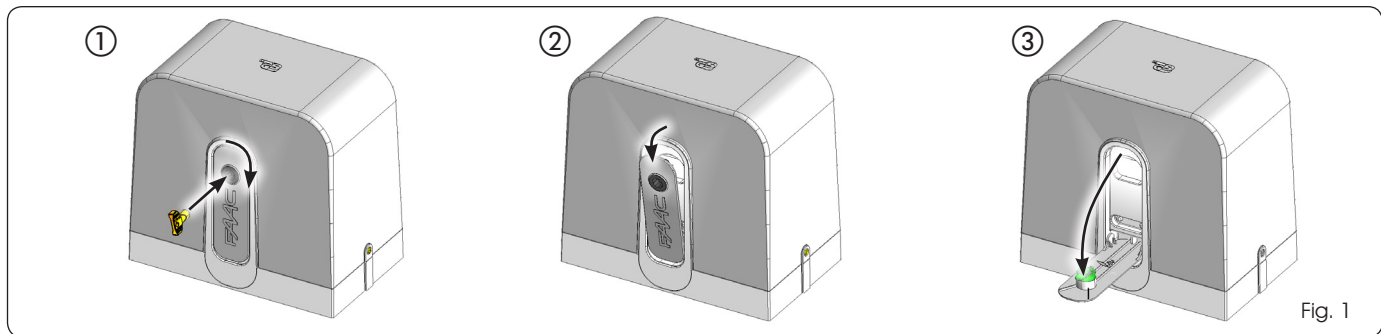

Fig. 1
1. Turn the release clockwise as shown in Fig. 1 re. ①. The release lever will move slightly away from the operator body (Fig. 1 re. ②)
2. Fully lower the release lever to the mechanical stop Fig. 1 re. ③.